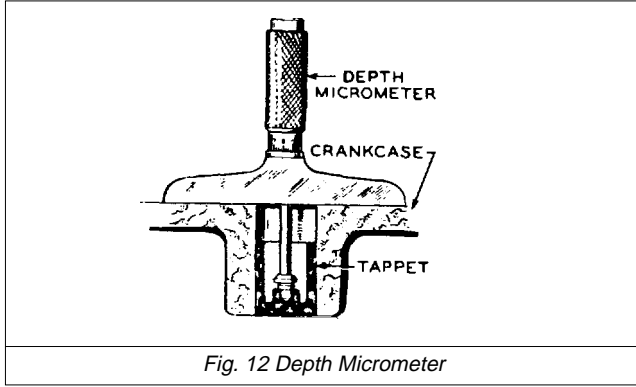

Fig. 12 Depth Micrometer
- (1) Install pump tappet in its recess and position flywheel on the port closing mark (PC) of the compression stroke.
- (2) Using a depth micrometer, measure the distance from the pump mounting pad on the crankcase to the tappet center (Fig. 12).
- (3) Subtract from the port closing dimension of the pump (1.670 in.) the depth obtained in Step 2. The result is the thickness of shims necessary to correctly time the pump.